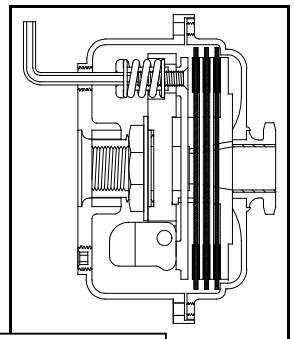

Figure 3
4. Insert a 1/8" allen wrench into the adjuster and turn it **clockwise** 1/8 of a turn (**See Fig. 3**). **remove wrench**